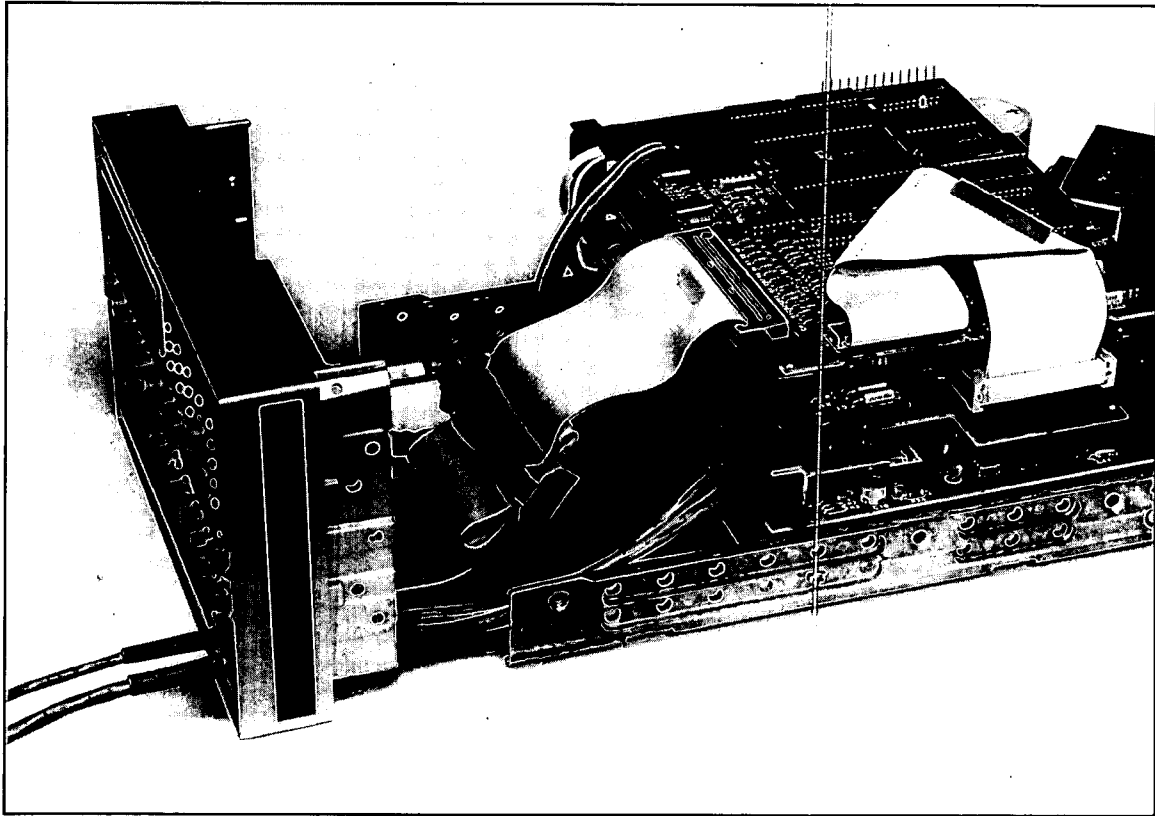

Figure 8-2. Reposition Front Panel
- d. **REPOSITION THE FRONT PANEL ASSEMBLY.** Release the clamp from the grey ribbon cable that connects the A8 HP-IB Microprocessor assembly to the Front Panel assembly. Remove the four recessed Pozidriv screws holding the Front Panel frame to the side struts of the main chassis. Carefully pull the Front Panel assembly away from the instrument, simultaneously pushing the Data Probe and Timing Pod cables through the front panel cable boots. (See Figure 8-2.)